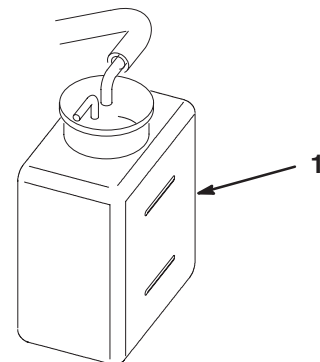

Figure 27
2. Check the coolant level (Fig. 27). It should be between the lines on the reserve tank when the engine is cold.